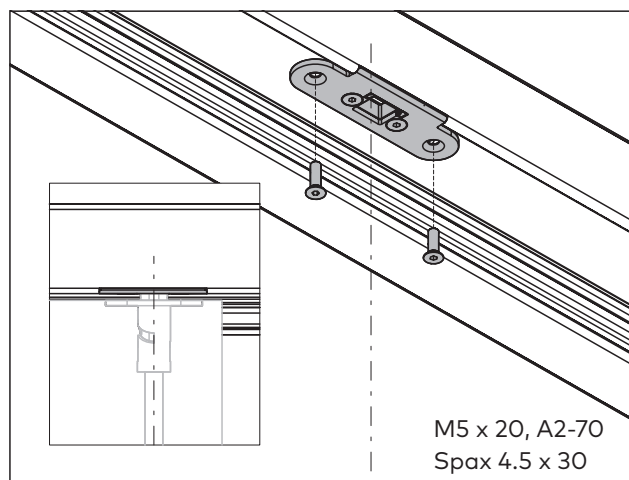

Fig. 53 Mount rod striking plate
18. Mount the rod striking plate for the upper espagnolette bolt in the door frame (Fig. 53).